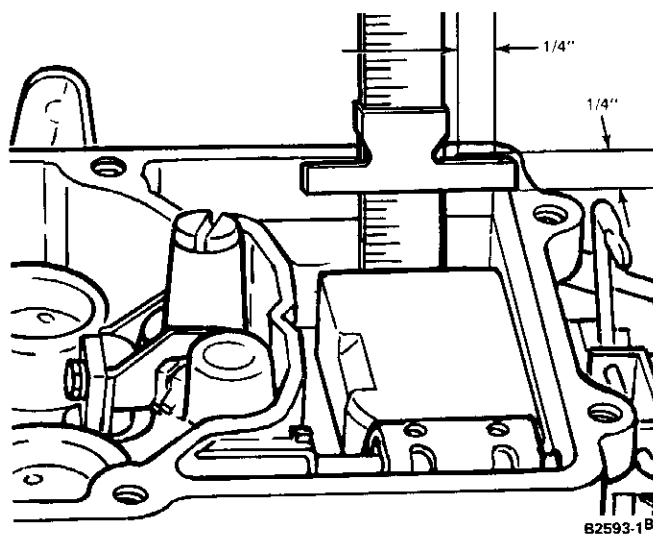

FIG. 20 Fuel Level (Float) Adjustment—Wet
4. While the engine is idling, use a standard depth scale to measure the vertical distance from the top machined surface of the carburetor main body to the level of the fuel in the fuel bowl (Fig. 20).